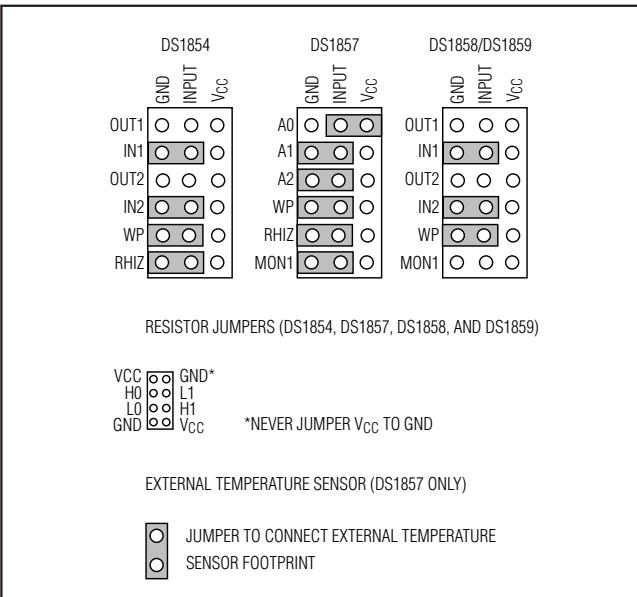

Figure 3. Default Jumper Settings
- 5) Place jumpers on board for the device that is being evaluated as shown in Figure 3. These are default jumper settings, which can be changed later as required by the application.